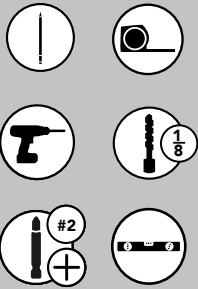

FIG. 1A
If using systems holes, attach the rack to the cabinet sidewall using (2) M6 x 6mm euro screws or measure, mark and pre-drill hole locations and attach to cabinet sidewall with (2) #8 x 32 x 1/2" wood screws (See Figure 1A and 1B).